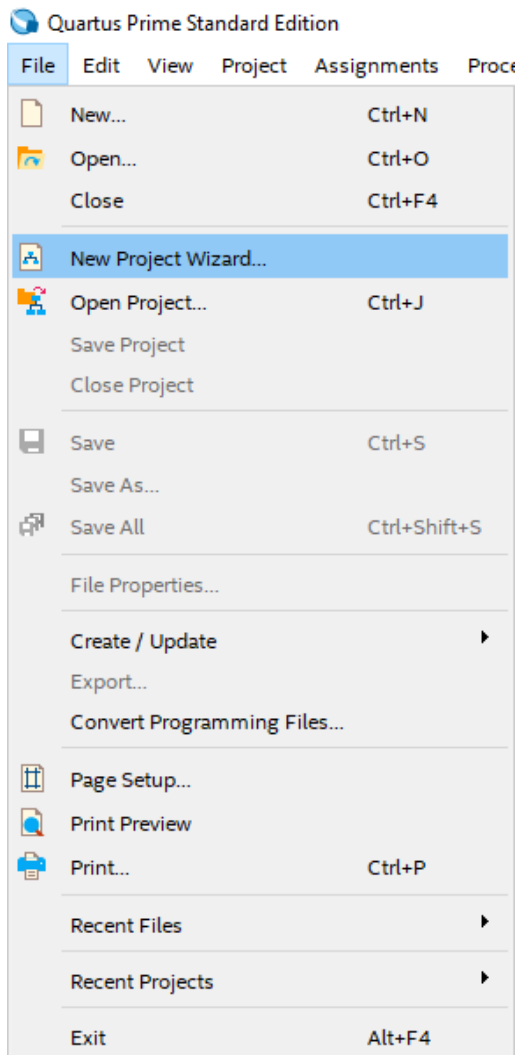

Figure 1-1 Opening New project Wizard
- 1.) First step is to open the Quartus program (We will be using Quartus 17.1 in this tutorial but other Quartus versions will work will some minor tweaking). You will then **select File→New Project Wizard**. See Figures 1-1 and 1-2.